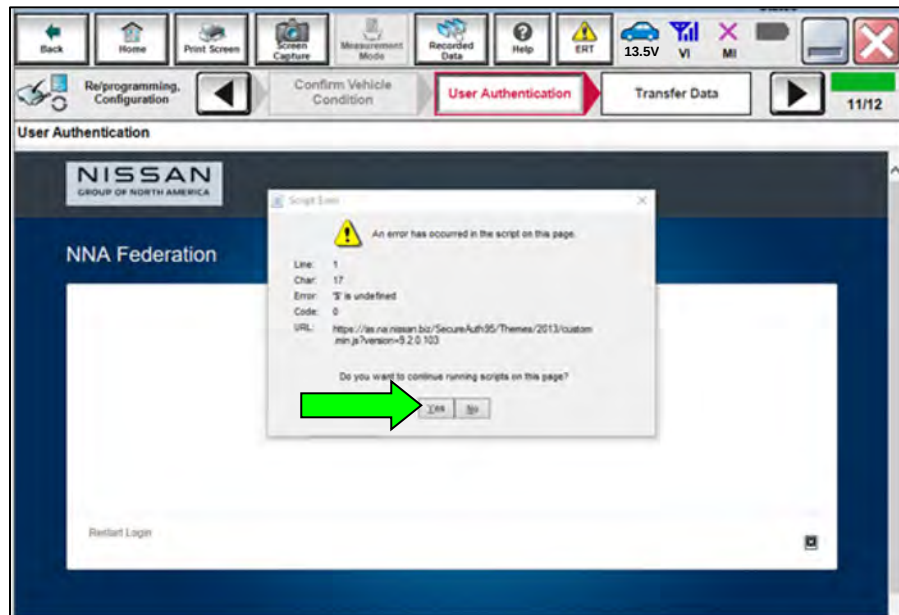

Figure 39
54. If the Script Error shown in Figure 39 is present, select **Yes**.